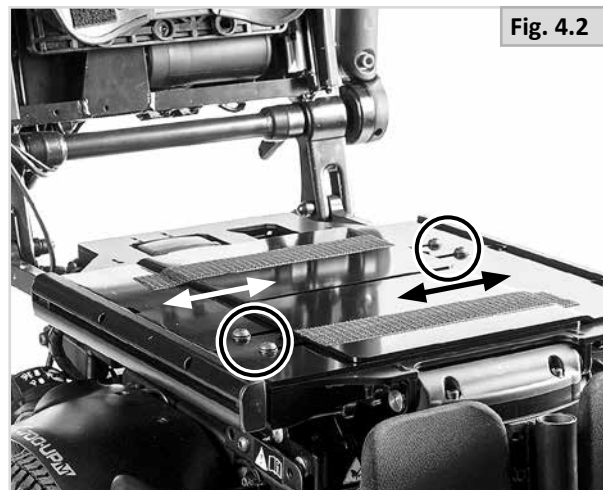

Fig. 4.2
- The seat width is indicated by the scale that runs alongside each slot (Fig.4.2).